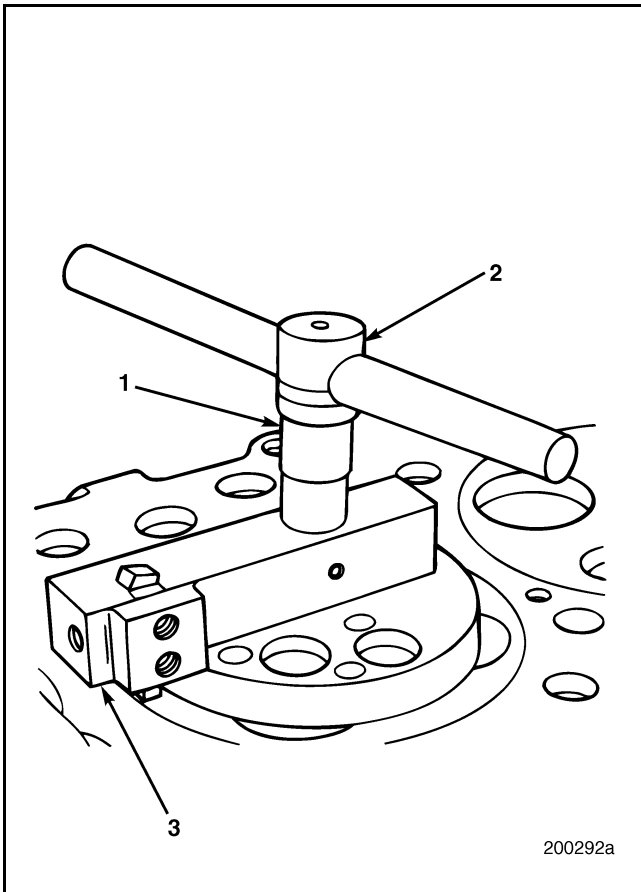

Figure 185 — Cutting Ring Groove
6. Install a socket (1) and T-handle (2) on the cutter head (3) as shown in Figure 185. Using the T-handle, rotate the cutter head in a clockwise direction only, applying an even downward pressure to cut the fire ring groove.